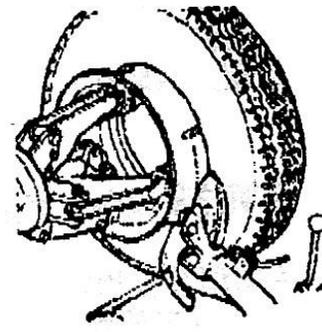

fig2.15
- 6) Put the plate on the other side of the tire. Push and turn the tire, until half of the tire has been pushed out (Fig2.15).